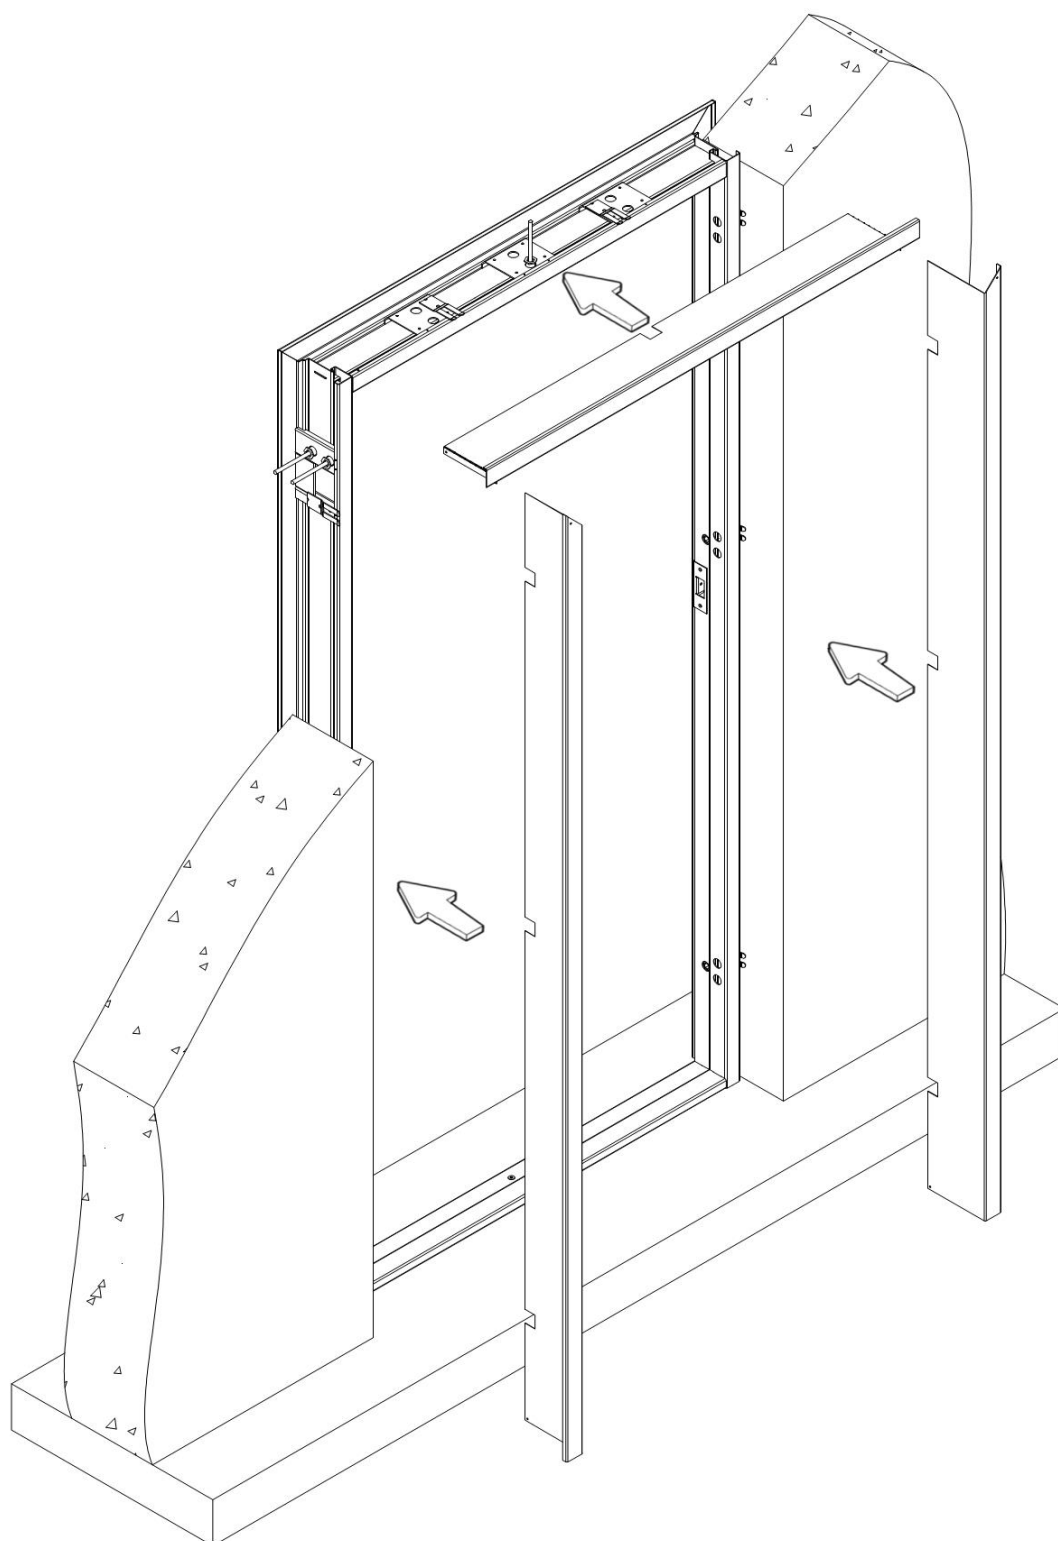

Figure 2.3 Sliding counter frame on jamb.
5. Install the counter frame on the jamb. Make sure not to damage the paint. The top of the counter frame must be installed first. Align it between the catchers and the door jamb and slide it forward until the reversed topmost edge touches the wall. (Figure 2.3)
6. Install one of the side elements of the counter frame. Slide it forward between the catchers and the door jamb. The bent edge of the top counter frame part must be on the outer surface of the vertical counter frame part. (Figure 2.3)
7. Repeat previous step with the other side element. (Figure 2.3)